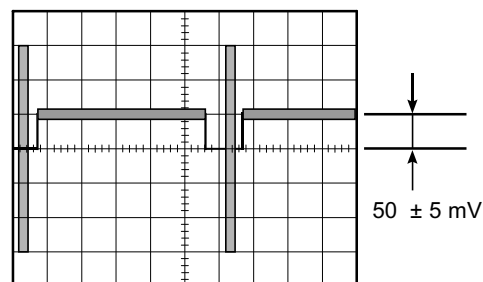

Fig. 4-5
- Adjust data with the **ARROW** keys so that the Pedestal level becomes 50 ± 5 mV as shown in Fig. 4-5.